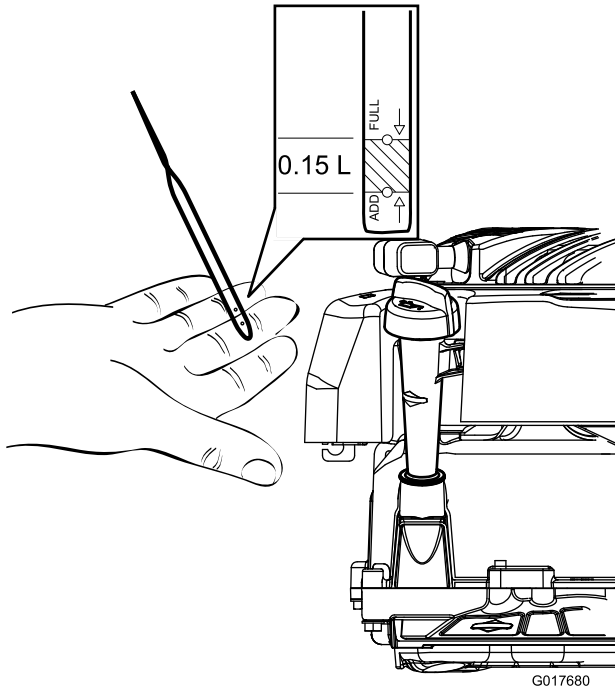
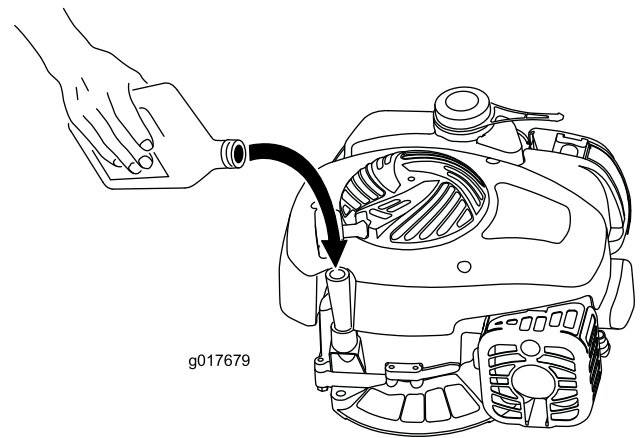

Figure 5
Figure 6
1. Remove the dipstick (Figure 5).
2. Slowly pour oil into the oil fill tube until the oil level reaches the Full line on the dipstick (Figure 5 and Figure 6). Wait 3 minutes after adding oil to check the oil level with the dipstick. Do not overfill. (Max. fill: 0.47 l (16 oz.), type: SAE 30 detergent oil with an API service classification of SF, SG, SH, SJ, SL, or higher.)